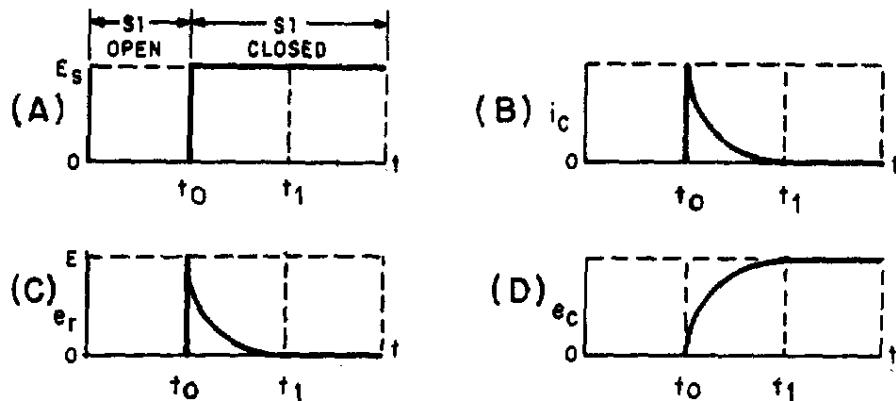
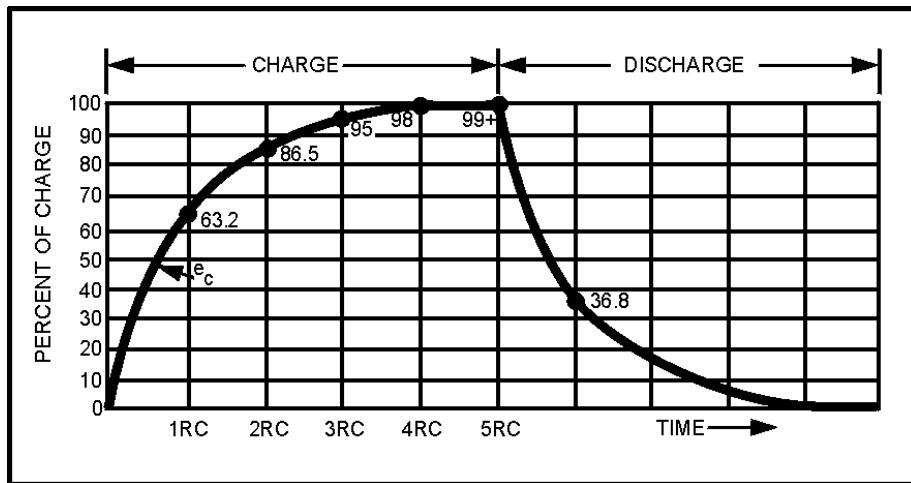

Figure 3-9.—Charge of an RC series circuit.
Figure 3-11.—RC time constant.
A voltage divider containing resistance and capacitance is connected in a circuit by means of a switch, as shown at the top of figure 3-9. Such a series arrangement is called an RC series circuit.
When switch S1 of the circuit in figure 3-9 is closed at t_0 , the source voltage (E_S) is instantly felt across the entire circuit. Graph (A) of the figure shows an instantaneous rise at time t_0 from zero to source voltage ($E_S = 6$ volts). The total voltage can be measured across the circuit between points 1 and 2. Now look at graph (B) which represents the charging current in the capacitor (i_c). At time t_0 , charging current is MAXIMUM. As time elapses toward time t_1 , there is a continuous decrease in current flowing into the capacitor. The decreasing flow is caused by the voltage buildup across the capacitor. At time t_1 , current flowing in the capacitor stops. At this time, the capacitor has reached full charge and has stored maximum energy in its electrostatic field. Graph (C) represents the voltage drop (e) across the resistor (R). The value of e is determined by the amount of current flowing through the resistor on its way to the capacitor. At time t_0 the current flowing to the capacitor is maximum. Thus, the voltage drop across the resistor is maximum ($E = IR$). As time progresses toward time t_1 , the current flowing to the capacitor steadily decreases and causes the voltage developed across the resistor (R) to steadily decrease. When time t_1 is reached, current flowing to the capacitor is stopped and the voltage developed across the resistor has decreased to zero.
The time required to charge a capacitor to 63 percent (actually 63.2 percent) of full charge or to discharge it to 37 percent (actually 36.8 percent) of its initial voltage is known as the TIME CONSTANT (TC) of the circuit. The charge and discharge curves of a capacitor are shown in figure 3-11. Note that the charge curve is like the curve in figure 3-9, graph (D), and the discharge curve like the curve in figure 3-9, graph (B).
The graphs shown in figure 3-11 and 3-12 are not entirely complete. That is, the charge or discharge (or the growth or decay) is not quite complete in 5 RC or 5 L/R time constants. However, when the values reach 0.99 of the maximum (corresponding to 5 RC or 5 L/R), the graphs may be considered accurate enough for all practical purposes.